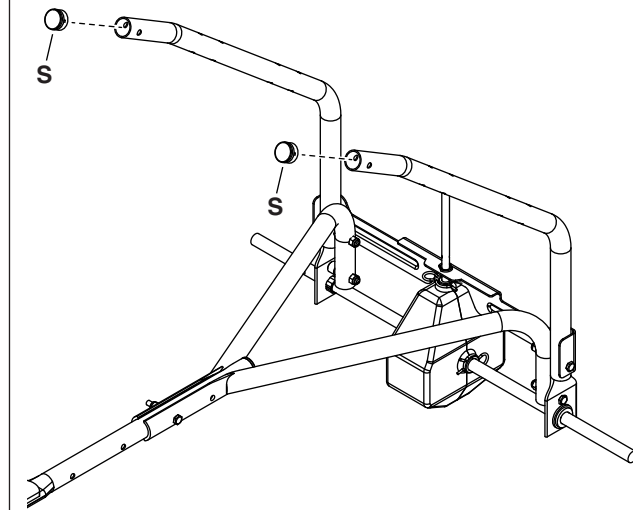

Figure 5
STEP 5: (SEE FIGURE 5)
- Insert plugs (S) into the ends of the hopper support tubes (5) and (6).